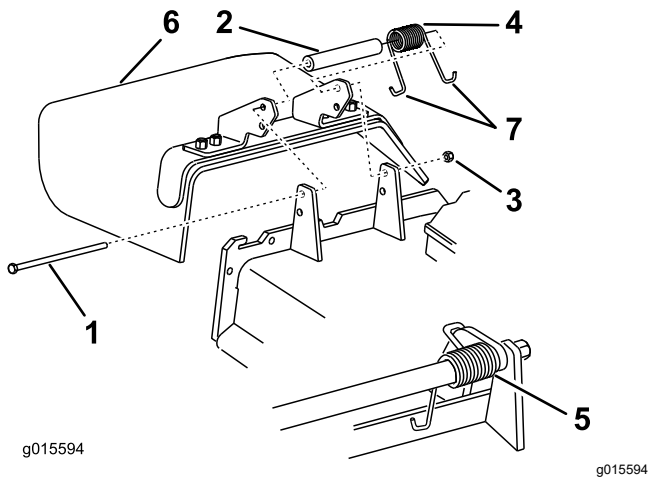

Figure 87
1. Remove the locknut, bolt, spring, and spacer holding the deflector to the pivot brackets (Figure 87).
2. Remove the damaged or worn grass deflector (Figure 87).
Note: Make sure that 1 J-hook end of the spring is installed behind the deck edge before installing the bolt as shown in Figure 87.
6. Place 1 J-hook end of the spring around the grass deflector (Figure 87).